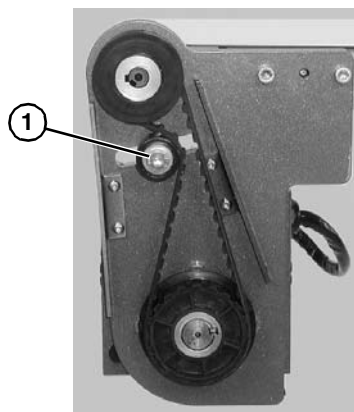

Figure 26
2. Loosen tensioner (**Figure 26, item 1**).